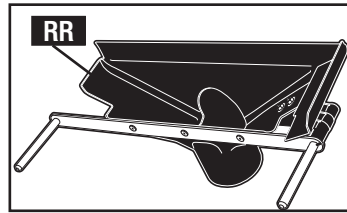
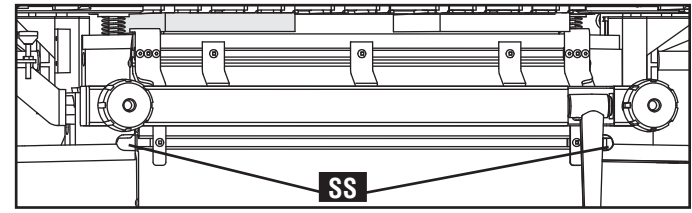
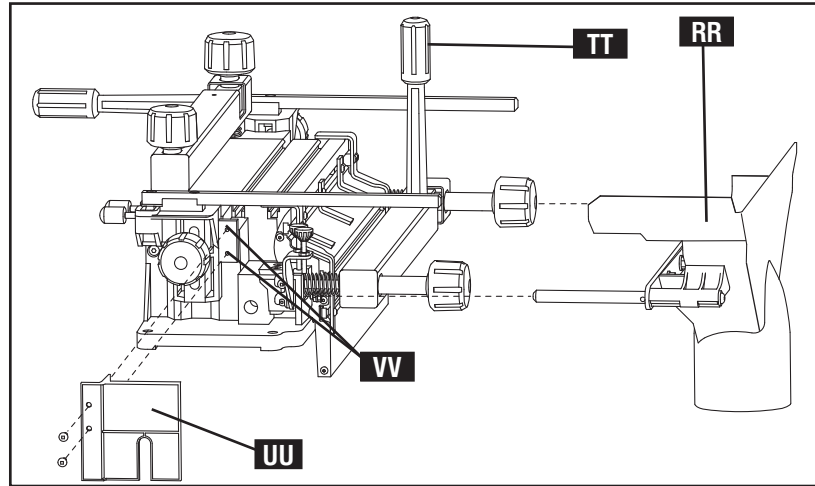

Fig. C22
Fig. C23
Fig. C24
A dust collection shroud (RR) Fig. C22 is available as an accessory for the OMNIJIG. The 16" unit requires Cat. No. 55164, while the 24" model uses Cat. No.77244. Both shrouds have a 4" port that allows for direct attachment to a standard dust collection system.
After assembly, the shroud (RR) Fig. C22 can slide right into the two holes (SS) Fig. C23 at the bottom front of the OMNIJIG® base. Before sliding the shroud in, be sure the front workpiece clamping handle (TT) Fig. C24 is up as shown. Install the chip catcher (UU) to the two holes (VV) in the side of the OMNIJIG® base using two supplied square drive screws.